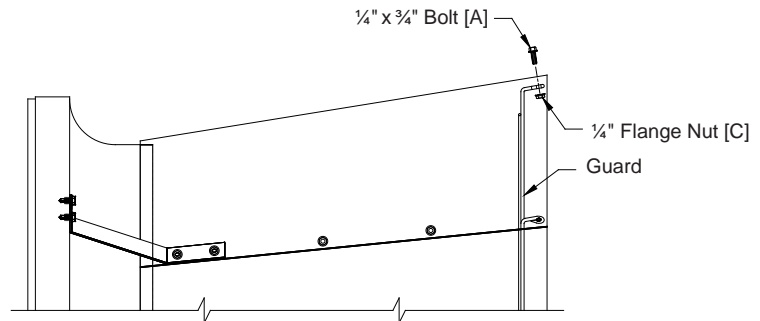

Figure 4
For 36" cone, insert guard into cone with the eyelets facing you and install guard with (6) Bolts [A] and Nuts [C]. Using bolts [A] and Nuts [C], fasten remaining cone section joints. See Figure 4.
For 48" cone, insert guard into cone with the guard eyelets facing you. Make sure each eyelet lines up with a hole in the cone sections and install with (12) Bolts [A] and Nuts [C]. See Figure 4.